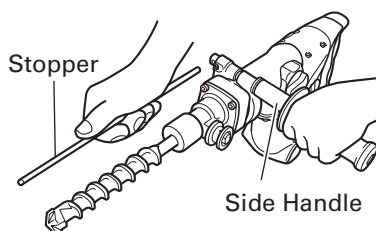

Fig. 9
5. Install the stopper (Fig. 9)